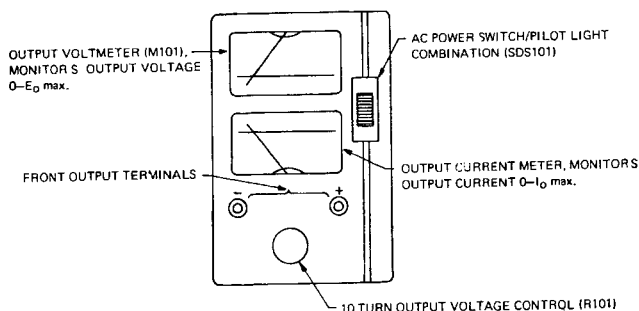

FIG. 2-1 FRONT PANEL TERMINATIONS, PCX—MAT
- a) FRONT PANEL: Refer to FIG. 2-1 (PCX—MAT only).